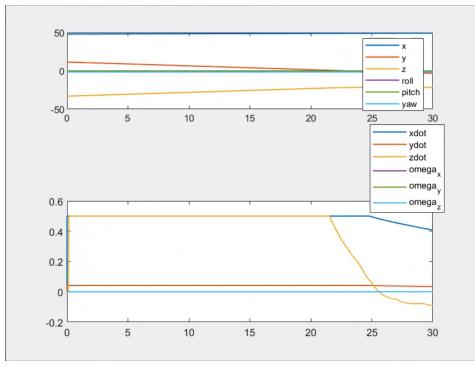

Figure 5: Position and velocity plot with Minimum Altitude threshold of 10m
- **10 m:** The UVMS has an initial position below this threshold, thus it starts floating towards the surface very quickly (it is possible to notice this vertical velocity  $\dot{z}$ , in (Figure 5)). Of course, the task is not accomplished because the target position is far from the threshold, therefore, this value does not seem a reasonable one.